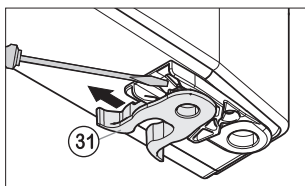

Fig.5
- Transfer the spring clamp Fig. 5 (31): Depress the latch nose and pull the spring clamp off over it.